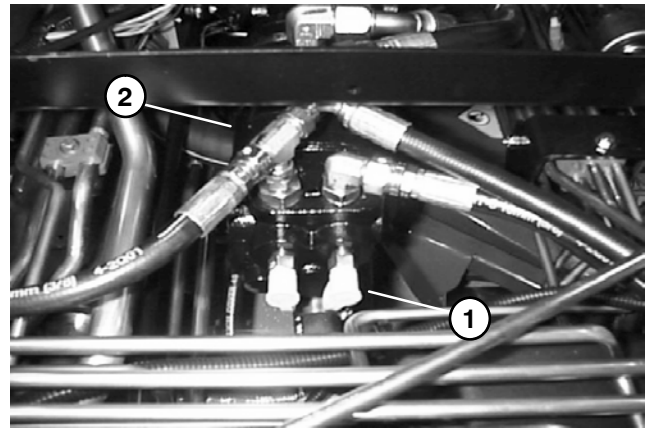

Figure 37
3. Raise seat to gain access to steering circuit test port located on the front end of the gear pump (Fig. 37). Connect a 5000 PSI gauge onto steering circuit test port. Route gauge hose to allow seat to be safely lowered.